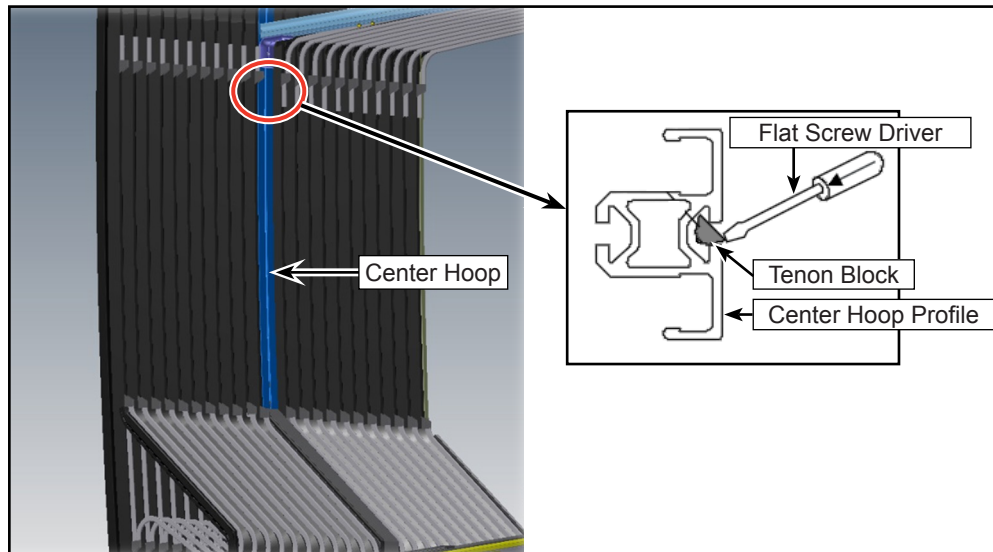

Figure 5 - Installation of Tenon Block
- 1.6. Install the new tenon block into the center hoop profile (right below the horizontal guiding profile) on both sides with a flat screw driver as shown (see Figure 5).